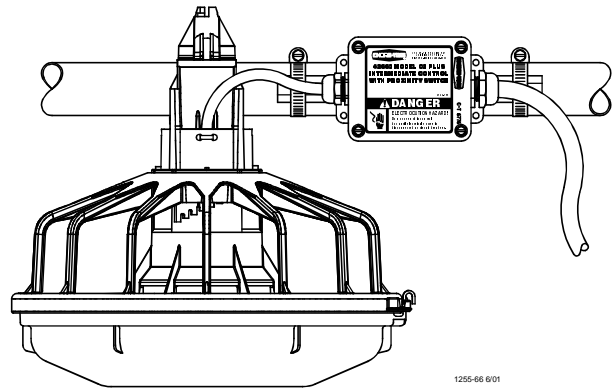

Figure 47. Installing the Sensor Plus Mid Line Control
- a. Assemble the Mid-Line Control to the Feeder Tube as shown in **Figure 47**.
- b. Attach the Switch Box Assembly to the Feeder Tube with Hose Clamps as shown in **Figure 47**.